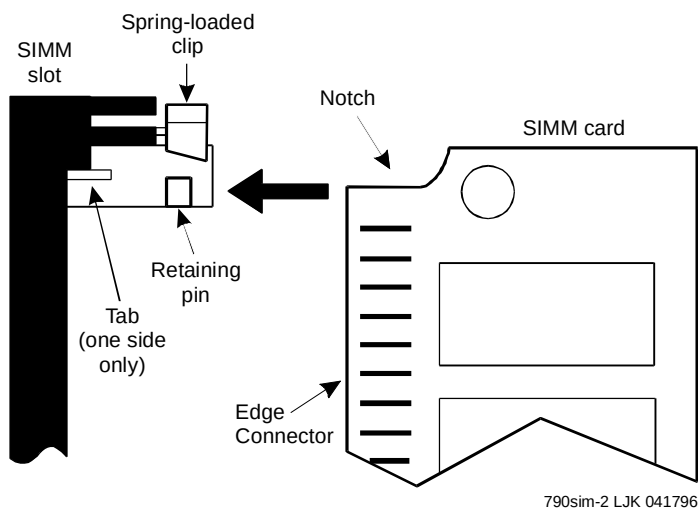

Figure 3-8. Align the SIMM with the SIMM Socket
3. Locate the Notch cutout area on one corner of the SIMM. See Figure 3-8. See WARNING.
(See Figure 3-8).